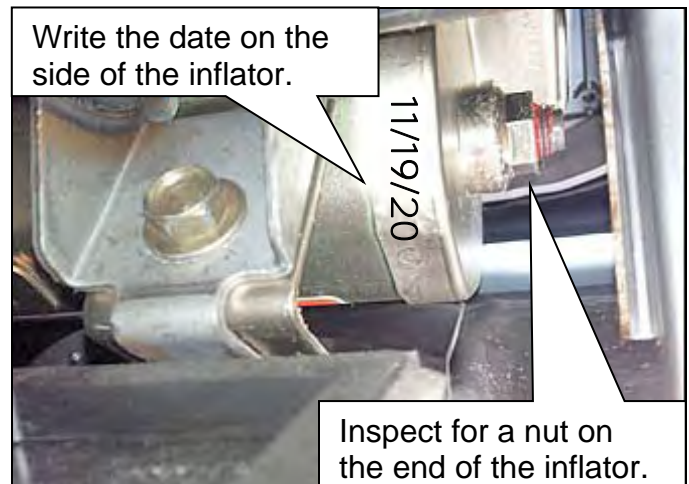

Figure 3
- If the inflator **has a nut on the end** (Figure 3):